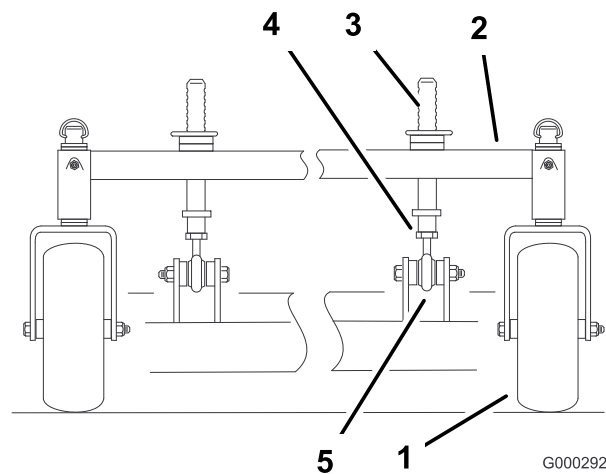

Figure 66
2. To raise the front of the deck, loosen jam nut and rotate the front pin clockwise (Figure 66).
3. To lower the front of the deck, loosen jam nut and rotate the front pin counter clockwise (Figure 66).
6. Tighten the jam nuts (Figure 66).
1. To change the front-to-rear pitch, the front height-of-cut posts can be adjusted (Figure 66).